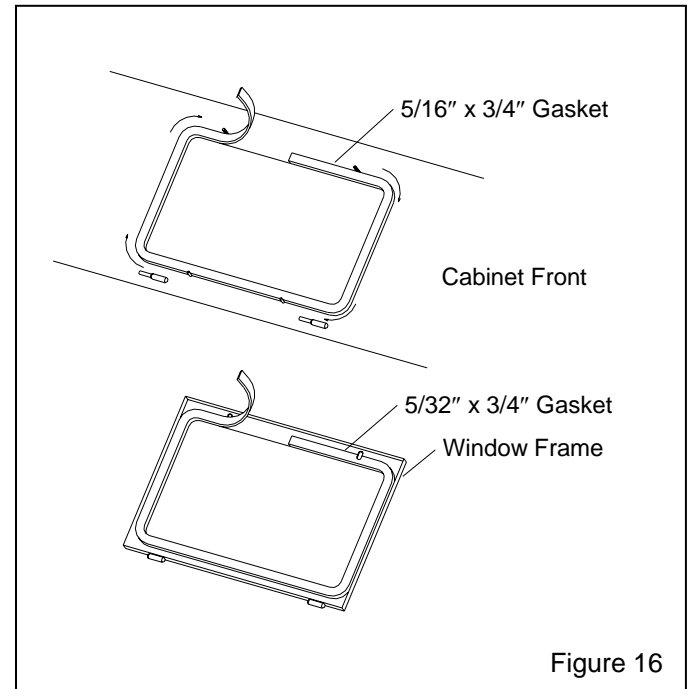

Figure 16
## 7.4 Window Gasket Replacement, Figure 16
**7.4.4** Peel a short section of adhesive backing from the 5/16" thick strip gasket, and adhere the gasket to the center of the top edge of the window opening as shown in Figure 16. Peel additional backing as needed, and work the strip around the radius of each corner, pressing it tightly to bond. Trim the gasket to fit and compress the ends to seal.